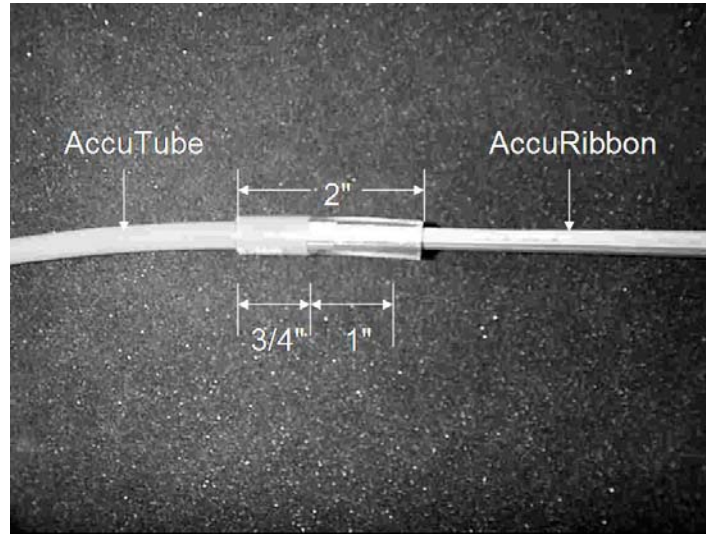

Figure 1 - AccuTube blocking plug,
- 3.4 Slide the TYGON tubing about 3/4-inch (19 mm) over the end of the buffer tube to form the blocking plug (Figure 1).